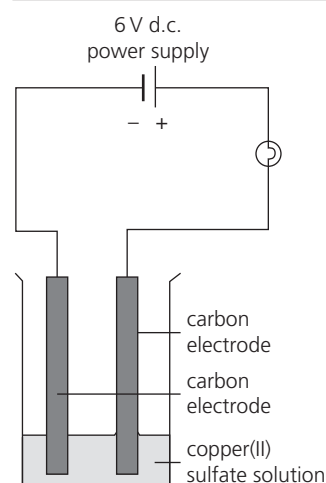

Figure 2
- 2 Set up the circuit as shown in Figure 2 but do not connect the battery or switch on your power supply.
- 3 Quarter fill the beaker with copper(II) sulfate solution and check the power supply (if using) is set to 6 V.